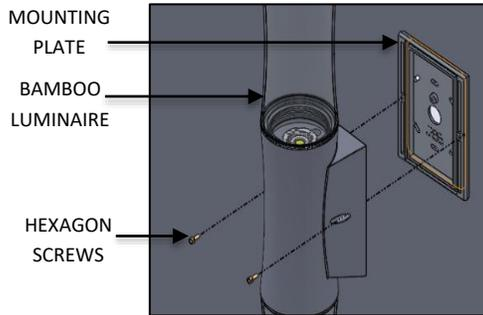

FIG. 5- MOUNTING PLATE DIS-ASSEMBLY
2. Unscrew HEXAGON SCREWS and remove the MOUNTING PLATE OUT of FIXTURE as shown in FIG 5.